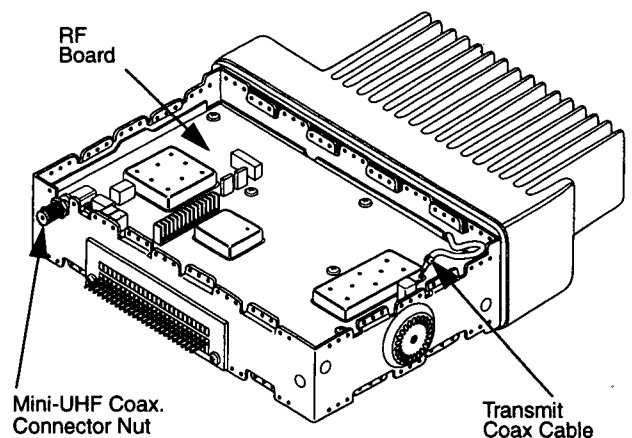

Figure 1-3.
1. Disconnect the transmit coax cable from the RF board (Figure 1-3).